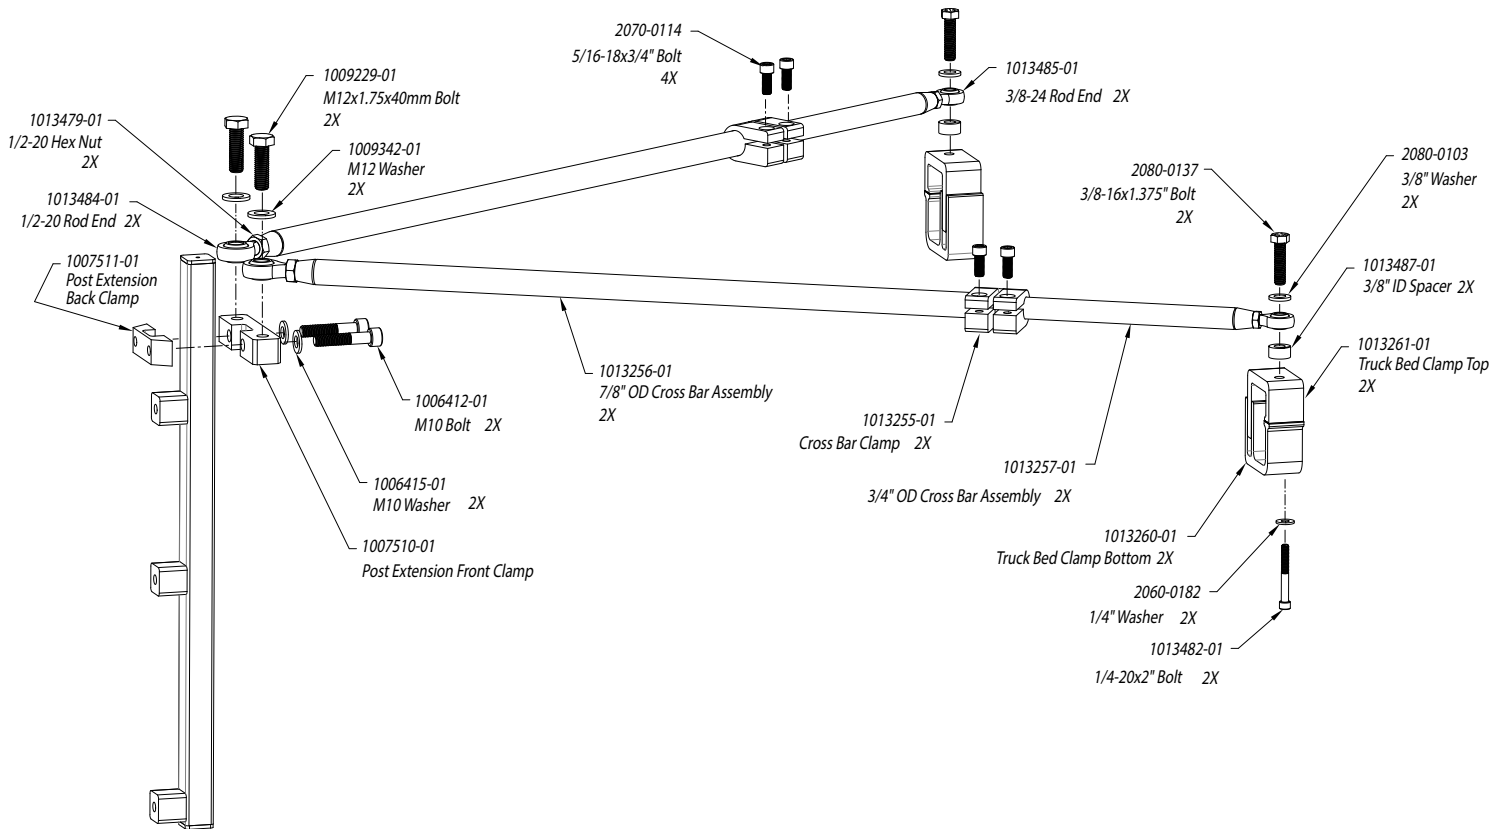

Figure 1: Cross Bar Clamp Mount
1. Fasten the 3/8" Rod Ends (1013485-01 2 ea) to the clamp tops (1013261-01 2 ea) using the supplied 3/8-16 bolts (2080-0137 2 ea), washers (2060-0182 2 ea), and spacers (1013487-01 2 ea) as shown in Figure 1.